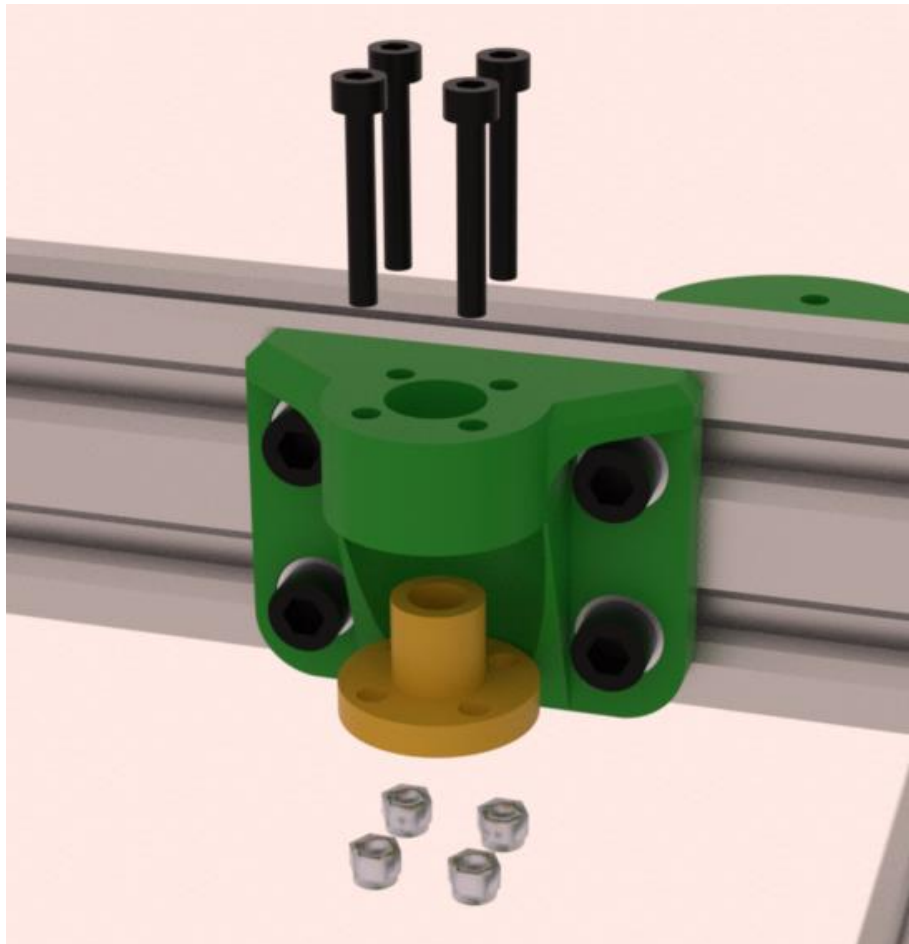

Figure 26: Leadscrew Nut Installation
- Insert two brass lead screw nuts into the lead screw brackets and bolt in place as shown in Figure 26.